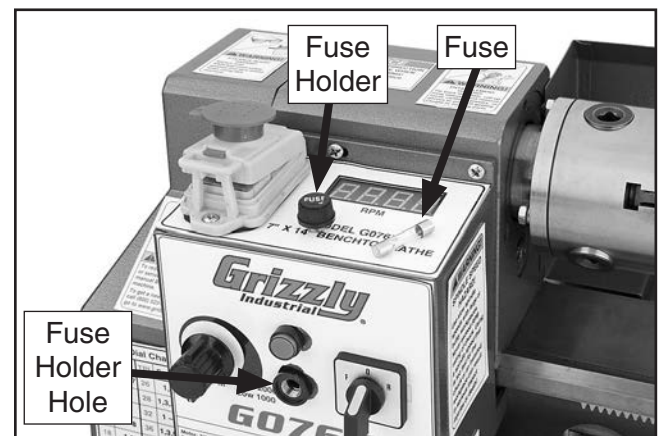

Figure 85. Fuse holder and fuse.
2. Unthread fuse holder by rotating counter-clockwise (see **Figure 85**) and remove fuse.